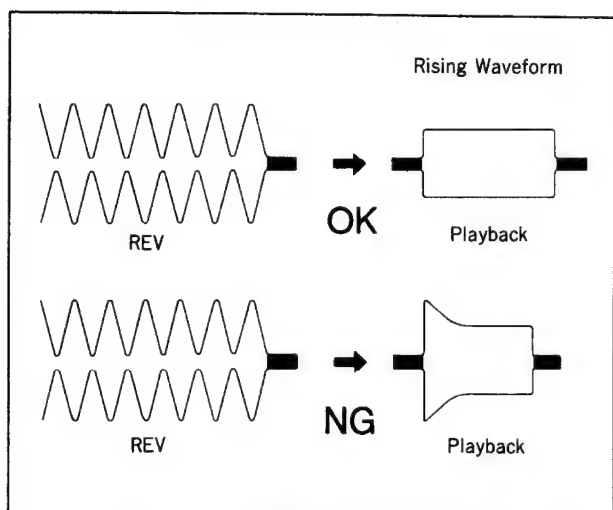

Fig. 41
- 6) If the waveform is not normal (Fig. 41), turn the upper flange ③ of the No. 2 guide (TG2) ① 90° counterclockwise and repeat step 5.